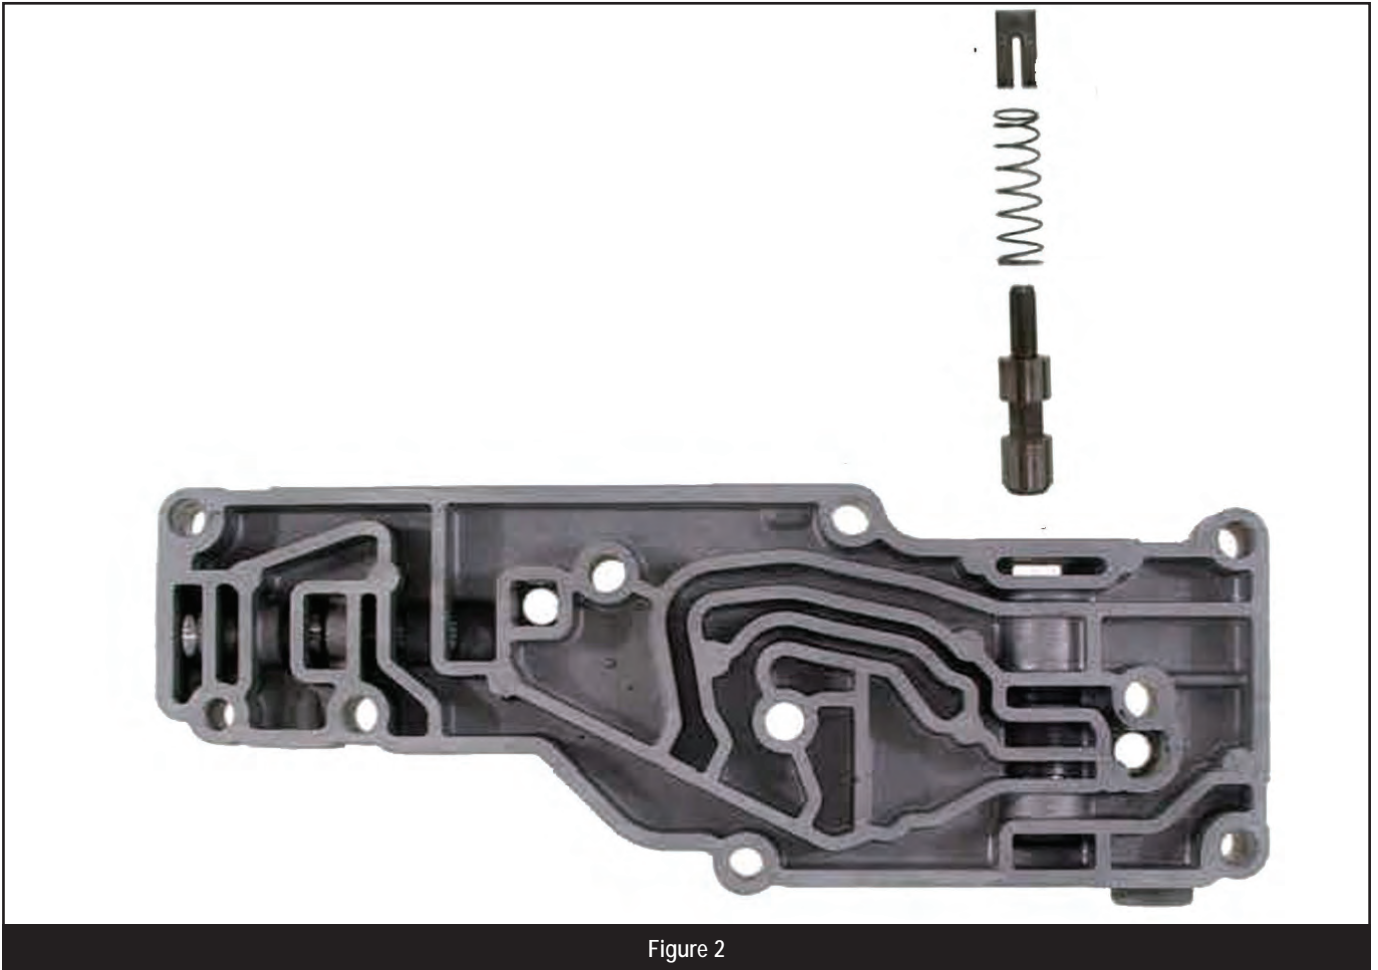

Figure 2
- 1-2 transition valve — stuck in the shifted position, holding the spring compressed (figure 2).